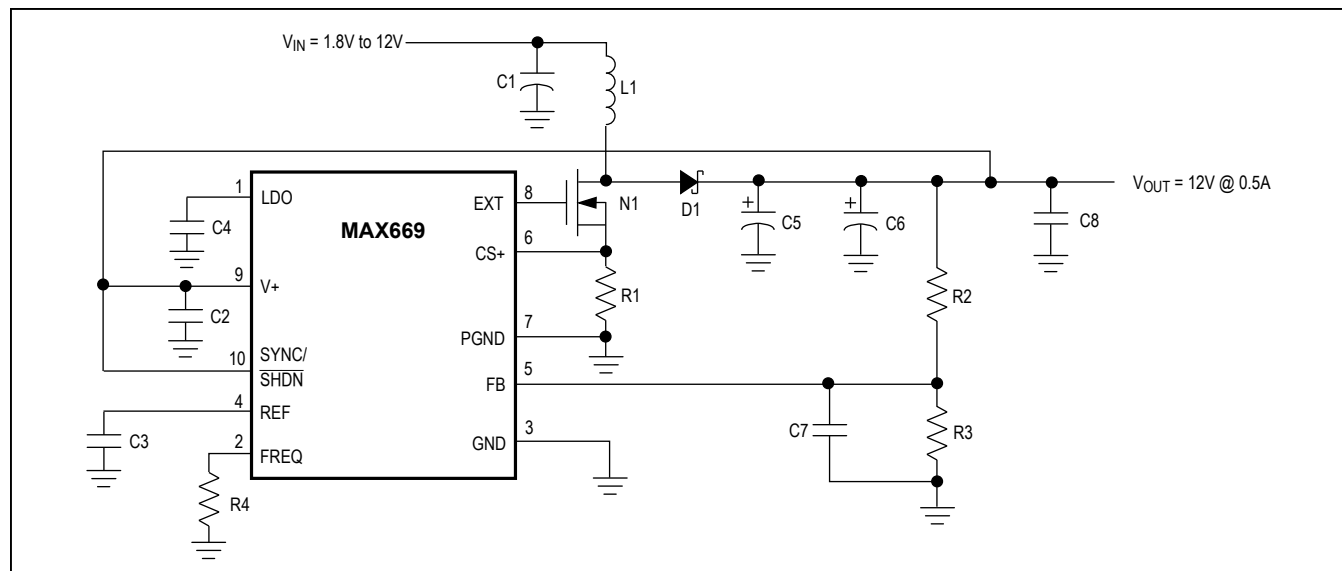
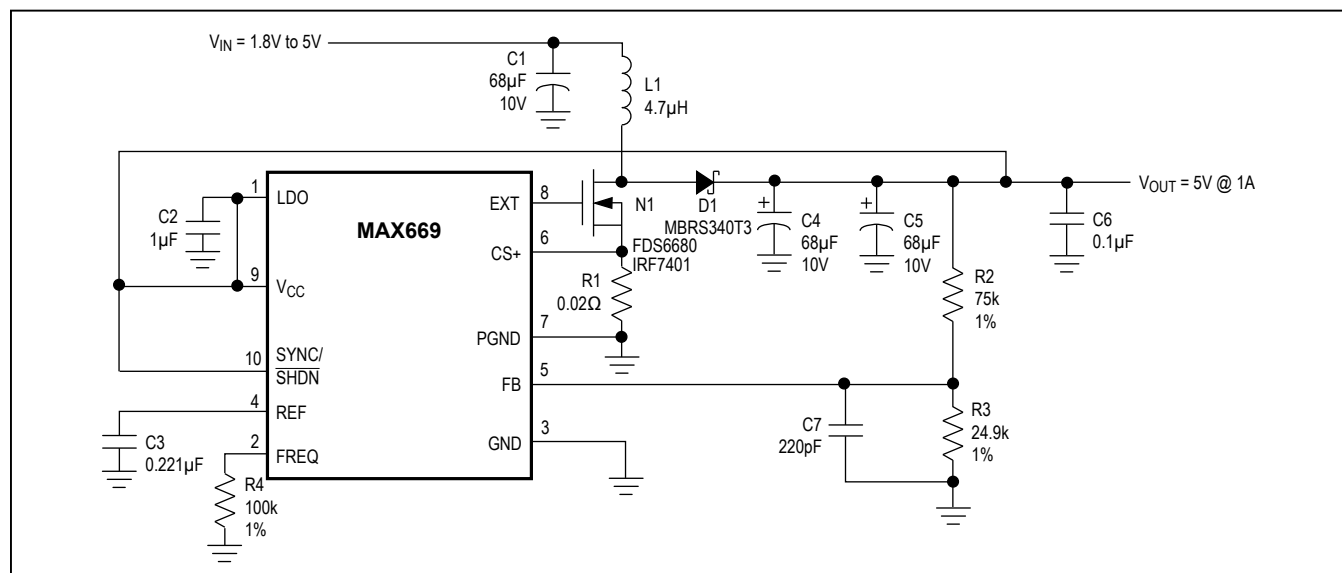
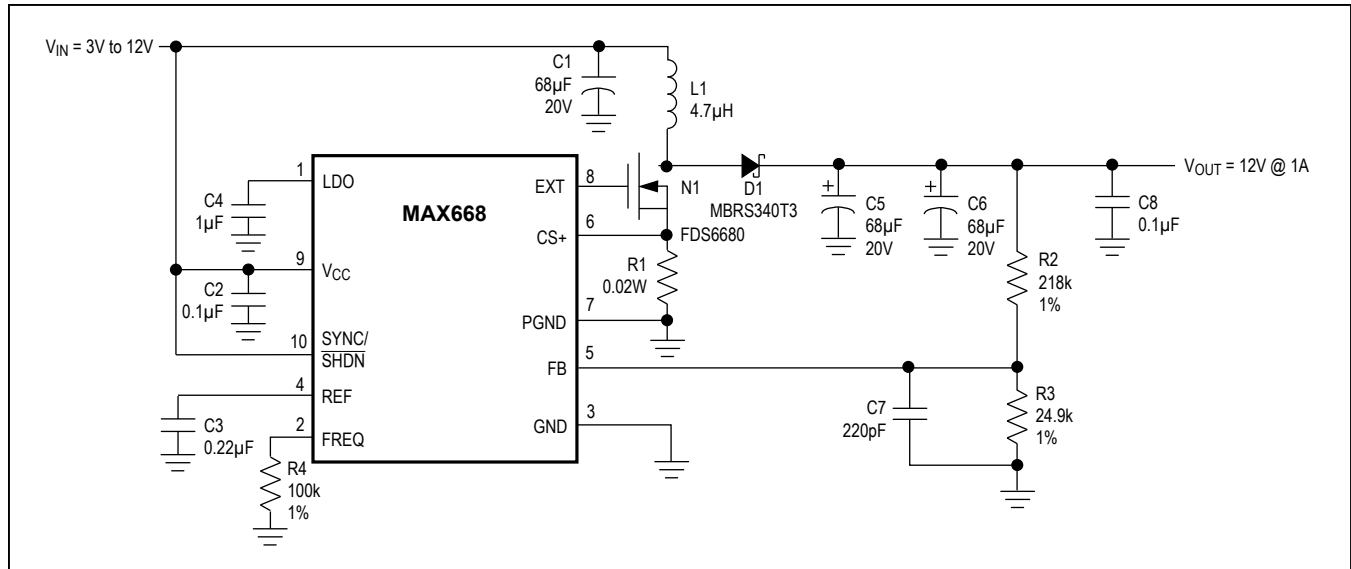
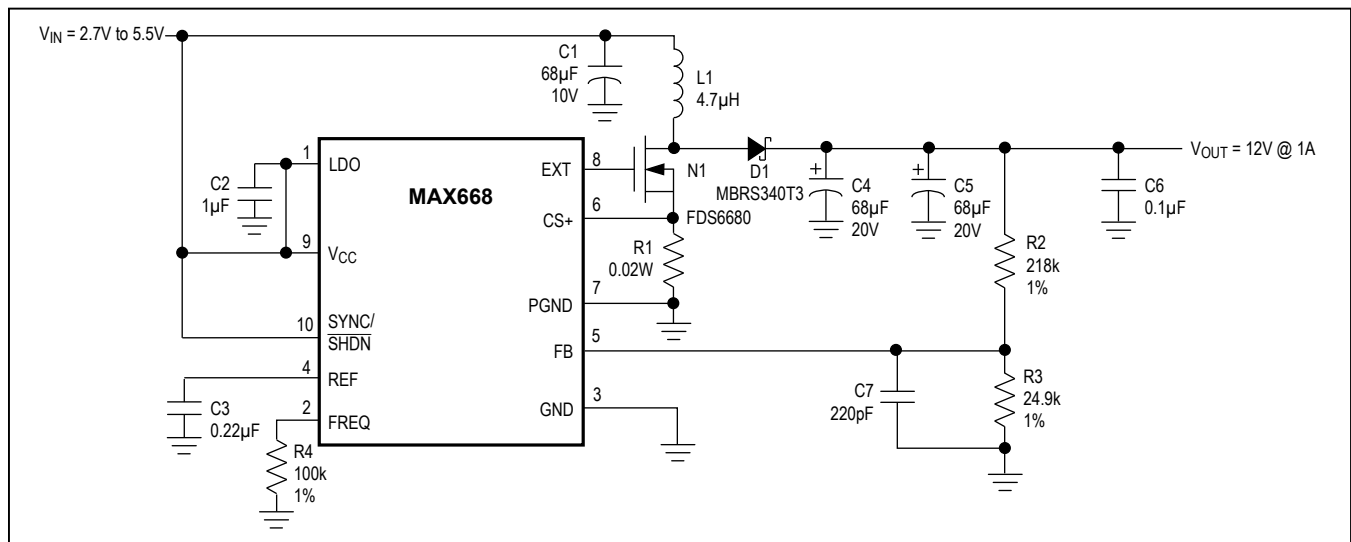

Figure 2. MAX669 High-Voltage Bootstrapped Configuration
Figure 3. MAX669 Low-Voltage Bootstrapped Configuration
Figure 4. MAX668 High-Voltage Non-Bootstrapped Configuration
Figure 5. MAX668 Low-Voltage Non-Bootstrapped Configuration
(Circuits of Figures 2, 3, 4, and 5;  $T_A = +25^\circ\text{C}$ ; unless otherwise noted.)
**Typical Operating Characteristics (continued)**(Circuits of Figures 2, 3, 4, and 5;  $T_A = +25^\circ\text{C}$ ; unless otherwise noted.)
$V_{CC}$  and LDO allow a variety of biasing connections to optimize efficiency, circuit quiescent current, and full-load start-up behavior for different input and output voltage ranges. Connections are shown in Figure 2, Figure 3, Figure 4, and Figure 5. The characteristics of each are outlined in Table 1.
With  $V_{CC}$  connected to  $V_{OUT}$ , as in Figure 2, EXT voltage swing is 5V when  $V_{CC}$  is 5.2V or more, and  $V_{CC} - 0.2V$  when  $V_{CC}$  is less than 5.2V. If the output voltage does not exceed 5.5V, the on-chip regulator can be disabled by connecting  $V_{CC}$  to LDO (Figure 3). This eliminates the LDO forward drop and supplies maximum gate drive to the external FET.
With non-bootstrapped operation, the IC is powered from the input voltage ( $V_{IN}$ ) or another source, such as a logic supply. Non-bootstrapped operation (Figure 4) is recommended (but not required) for input voltages above 5V, since the EXT amplitude (limited to 5V by LDO) at this voltage range is no higher than it would be with bootstrapped operation. Note that non-bootstrapped operation is *required* if the output voltage exceeds 28V, since this level is too high to safely connect to  $V_{CC}$ . Also note that **only the MAX668 can be used with non-bootstrapped operation**.
If the input voltage does not exceed 5.5V, the on-chip regulator can be disabled by connecting  $V_{CC}$  to LDO (Figure 5). This eliminates the regulator forward drop and supplies the maximum gate drive to the external FET for lowest on-resistance. Disabling the regulator also reduces the non-bootstrapped minimum input voltage from 3V to 2.7V.
| High-Voltage, Bootstrapped        | Figure2 | MAX669    | 1.8 to 28                | 3V to 28                 | Connect <math>V_{CC}</math> to <math>V_{OUT}</math>. Provides maximum external FET gate drive for low-voltage (Input <3V) to high-voltage (output >5.5V) boost circuits. $V_{OUT}$ cannot exceed 28V.   |
| Low-Voltage, Bootstrapped         | Figure3 | MAX669    | 1.8 to 5.5               | 2.7 to 5.5               | Connect <math>V_{OUT}</math> to <math>V_{CC}</math> and LDO. Provides maximum possible external FET gate drive for low-voltage designs, but limits $V_{OUT}$ to 5.5V or less.   |
| High-Voltage, Non-Bootstrapped    | Figure4 | MAX668    | 3 to 28                  | $V_{IN}$ to $\infty$     | Connect <math>V_{IN}</math> to <math>V_{CC}</math>. Provides widest input and output range, but external FET gate drive is reduced for $V_{IN}$ below 5V.   |
| Low-Voltage, Non-Bootstrapped     | Figure5 | MAX668    | 2.7 to 5.5               | $V_{IN}$ to $\infty$     | Connect <math>V_{IN}</math> to <math>V_{CC}</math> and LDO. FET gate-drive amplitude = $V_{IN}$ for logic-supply (input 3V to 5.5V) to high-voltage (output >5.5V) boost circuits. IC operating power is less than in Figure 4, since IC current does not pass through the LDO regulator. |
\* For standard step-up DC-DC circuits (as in Figures 2, 3, 4, and 5), regulation cannot be maintained if  $V_{IN}$  exceeds  $V_{OUT}$ . SEPIC and transformer-based circuits do not have this limitation.
The output voltage is set by two external resistors (R2 and R3, Figure 2, Figure 3, Figure 4, and Figure 5). First select a value for R3 in the 10kΩ to 1MΩ range. R2 is then given by:
where  $R2$  and  $R3$  are the feedback resistors (Figure 2, Figure 3, Figure 4, and Figure 5). If the calculated value for  $C_{FB}$  results in a non-standard capacitance value, values from 0.5 $C_{FB}$  to 1.5 $C_{FB}$  will also provide sufficient compensation.
In non-bootstrapped configurations (Figure 4, and Figure 5), the MAX668 can start up with any combination of output load and input voltage at which it can operate when already started. In other words, there are no special limitations to start up in non-bootstrapped circuits.
Figure 5 shows the MAX668 operating in a 5V to 12V boost application. This circuit provides output currents of greater than 1A at a typical efficiency of 92%. The MAX668 is operated in non-bootstrapped mode to minimize the input supply current. This achieves maximum light-load efficiency. If input voltages below 5V are used, the IC should be operated in bootstrapped mode to achieve best low-voltage performance.